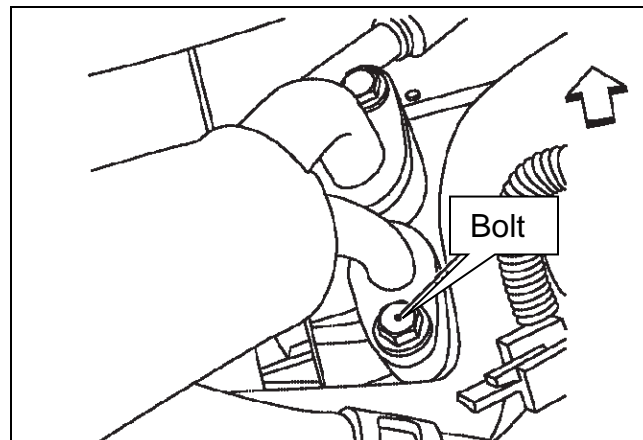

Figure 1
6. Remove the bolt (Figure 1) that retains the high-pressure flexible hose to the A/C compressor.